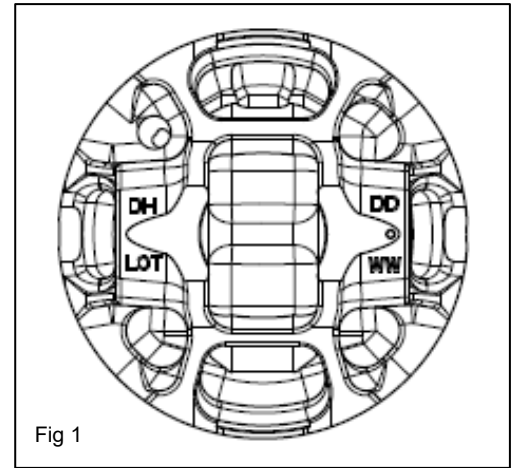

Fig 1
- 2.1 Confirm the O.D. of the piston skirt on the back of the piston. The diameter is between 86.450 to 86.460mm. The last 2 numbers of the 3 digits after the decimal point are shown on the back of the piston. (e.g.: If the O.D. is 86.455mm, “55” is shown on the back of the piston.) (Fig 1)